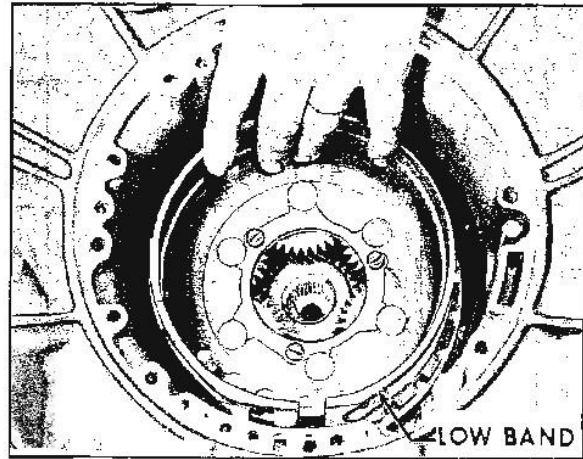

Fig. 7B-124 Installing Low Band
1. Install guide pins and new pump gasket (Fig. 7B-127).